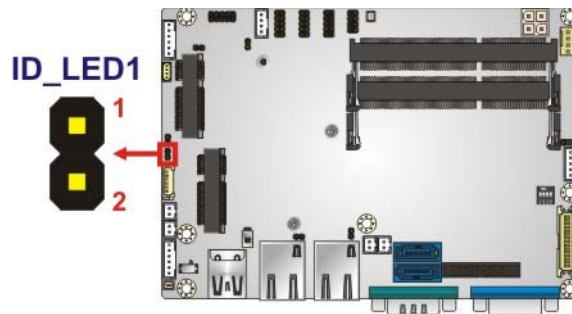

Figure 3-11: IPMI LED Connector Location
- CN Location:** See **Figure 3-11**